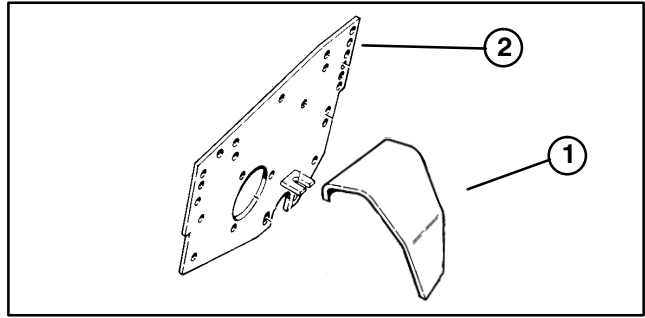

Figure 15
8. Mount a tensioner bracket to left side plate with (2) carriage bolts, washers and locknuts previously removed (Fig. 15).